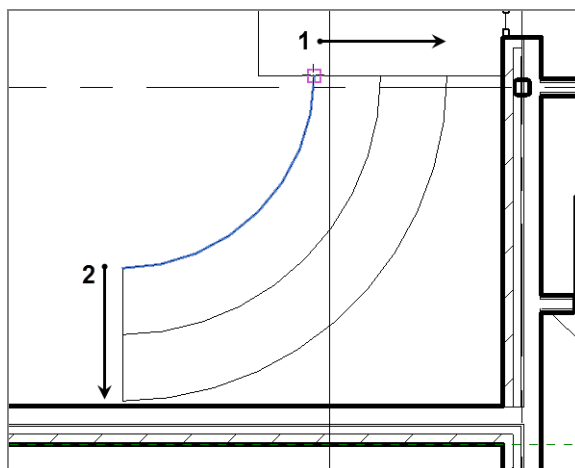

FIGURE 10.39: Adding a straight line at each end of the arcs
13. Click the Line tool, make sure Offset is set to 0, and then draw a straight line at each end of the arcs, as shown in Figure 10.39.